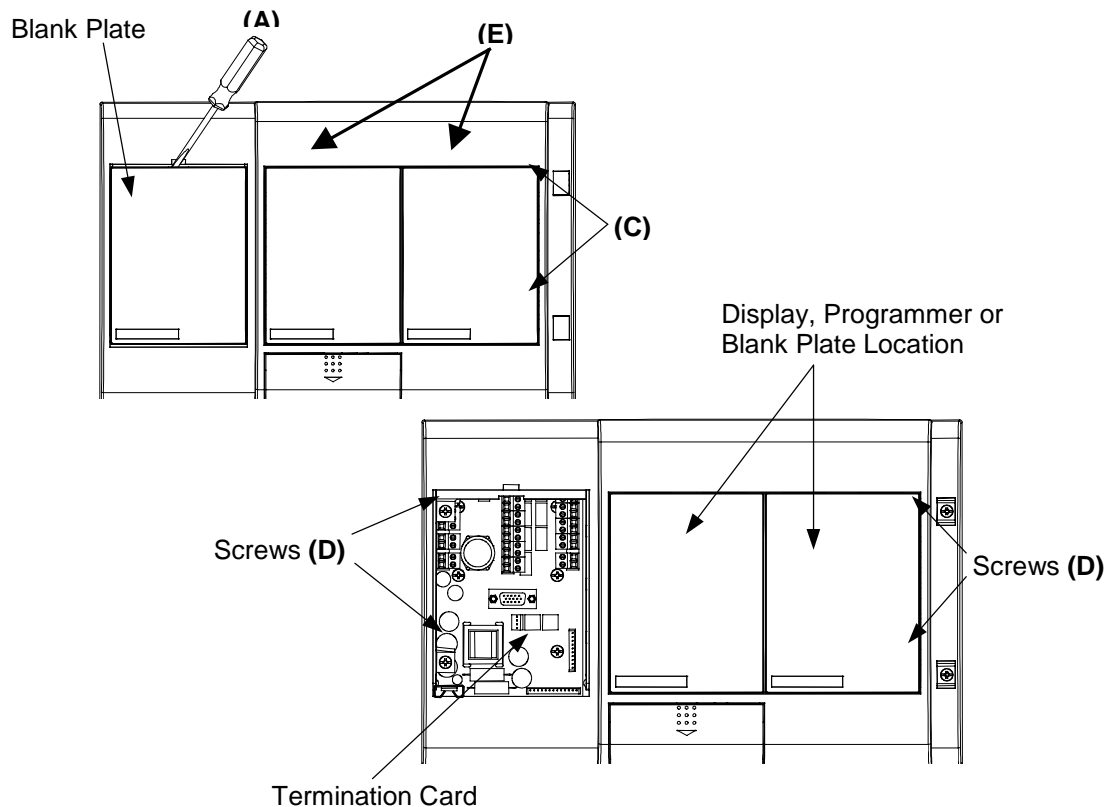

Figure 4 Removing the Blank Plate, Screw Covers, Retaining Screws, Programmer and Display Modules.
- (a) Insert a 4mm x 1mm flat blade screwdriver (A) into notch. Refer to Figure 4.
- (b) Gently open the blank plate (B) with the screwdriver.
- (c) Lift out the two screw covers (C) with a flat blade screwdriver.
- (d) Use a Philips head screwdriver and remove the four retaining screws (D). Screws are captive and are retained within the front cover. Refer to Figure 4.
- (c) Insert a 4mm wide x 1mm flat blade screwdriver into gap between module and front cover (E). Refer to Figure 4.